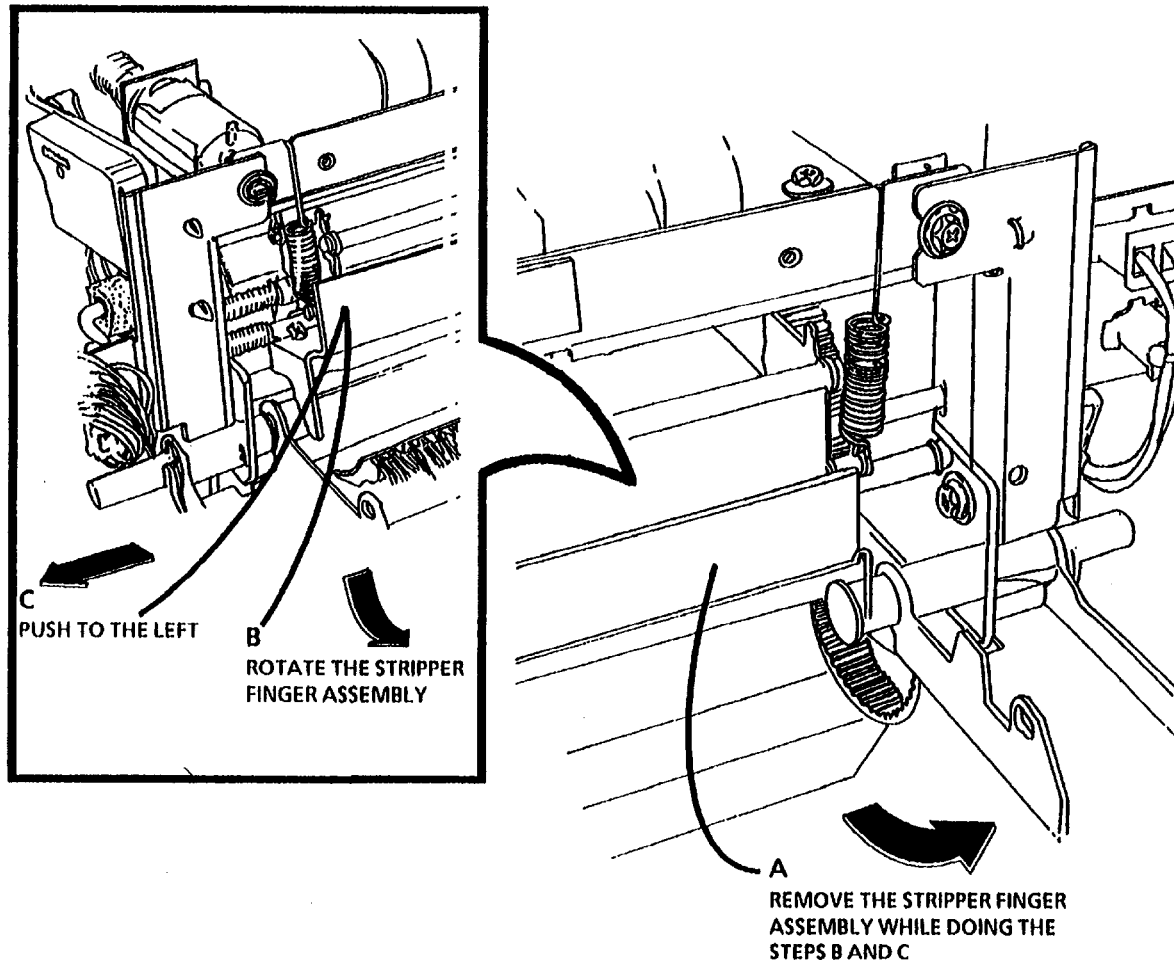

Figure 2. Remove the Stripper Finger Assembly
4. (Figure 2): Remove the Stripper Finger Assembly.